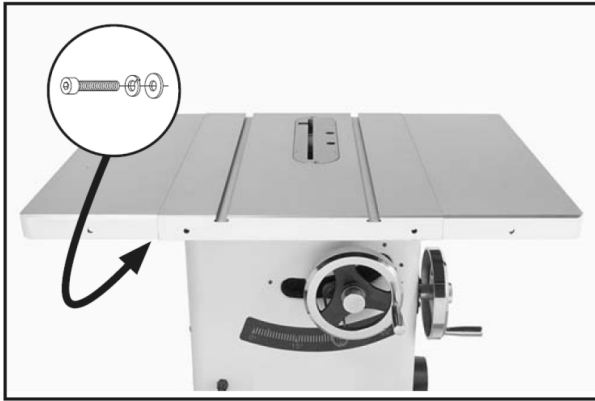

Fig.8: Extension wings install
5.4.4 Extension wings install(Fig.8)